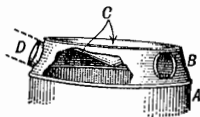

Fig. 82
99. *Furnace Casing*. A sheet metal drum surrounding the upper part of a warm air furnace. A, Fig. 82.
100. *Furnace Bonnet*. A tapering hood placed over and connected to a furnace casing. B, Fig. 82.
101. *Deflector*. An inverted cone placed at the top of the Bonnet to direct the heated air to the Collars. C in Fig. 82.
102. *Bonnet Collar*. An outlet in a furnace casing placed at an angle, to provide means of connecting a warm air pipe or elbow. D in Fig. 82.